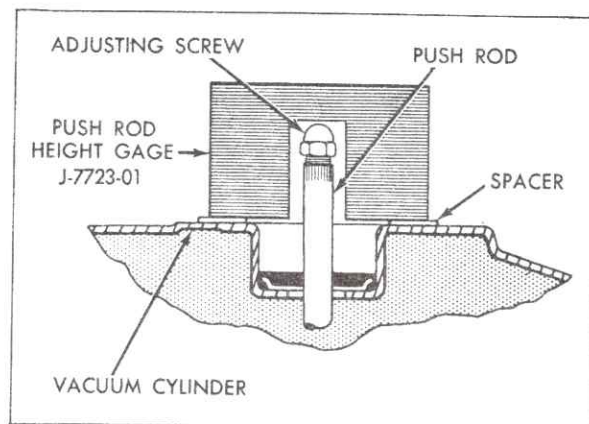

Fig. 5-26 Checking Bendix Push Rod Height with Spacer
19. Place a .030 inch spacer under legs of gage on front shell. Top of screw should clear gage, Fig. 5-26.